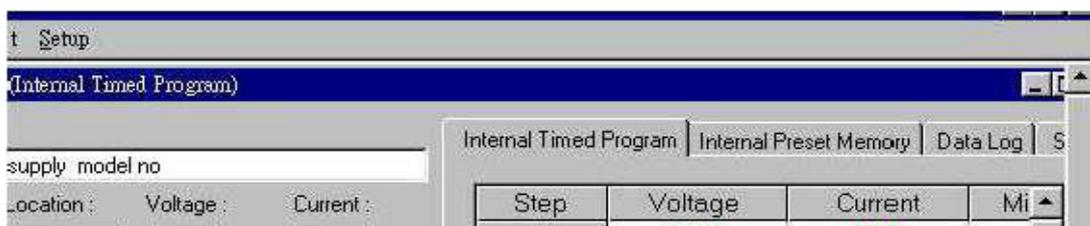
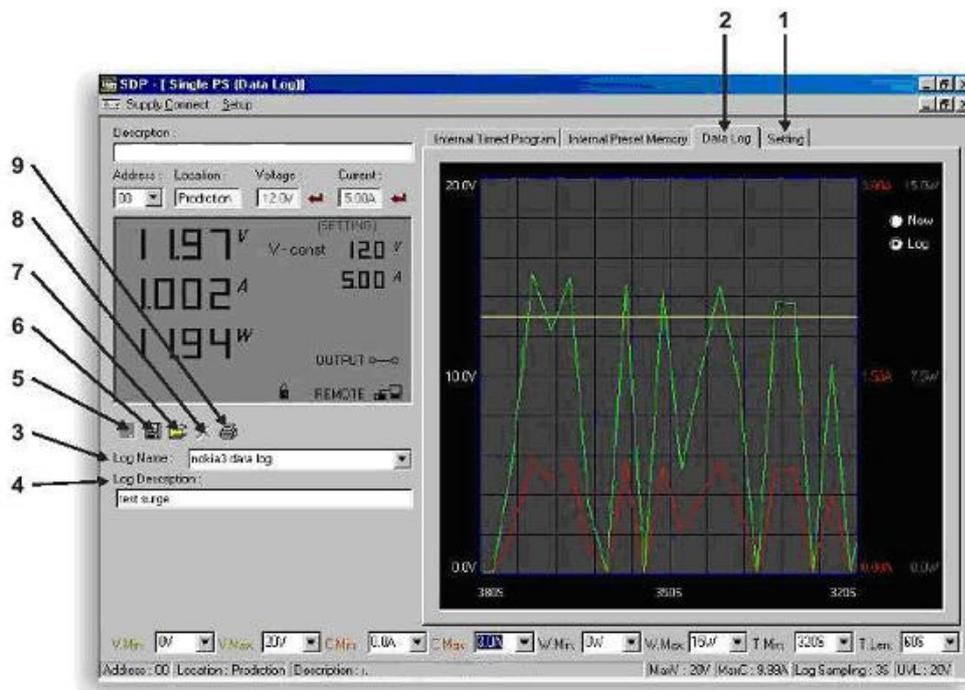

Fig. 8.4.1b. Internal Timed Program Header
Figure 8.4.1c Data Log Window
6. An "Internal Timed Program" Window will appear as shown in Figure 8.4.1b. Click on the *Data Log* header on top right and a *Data Log* Window as shown in Figure 8.4.1c will appear.